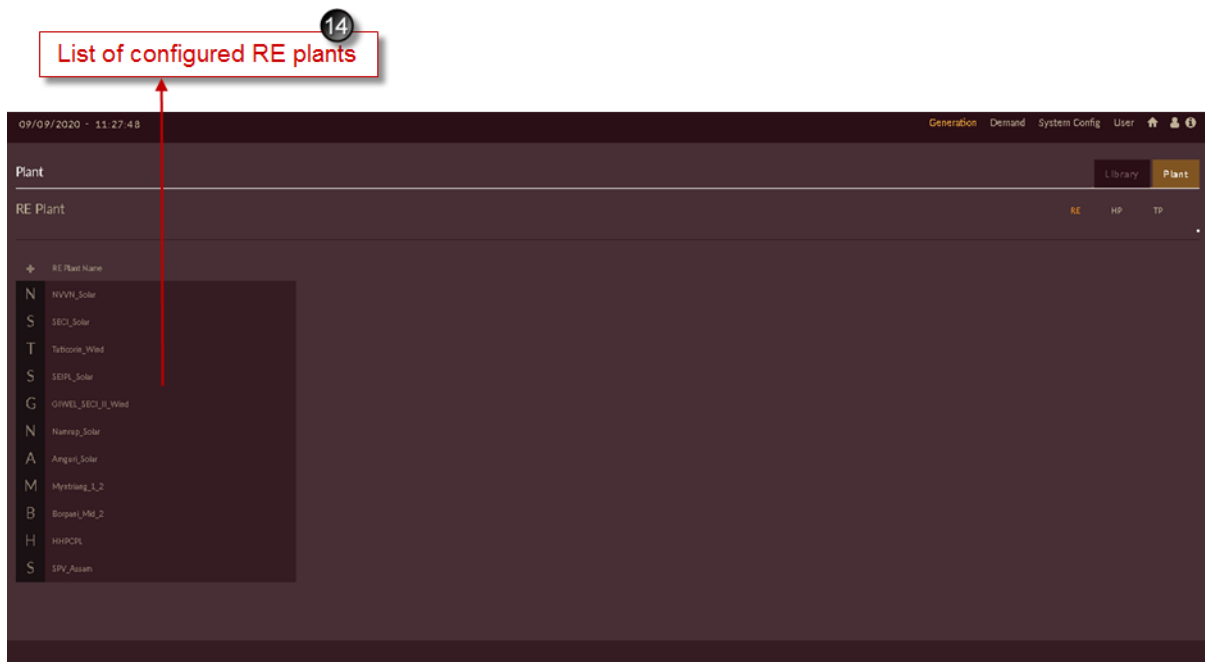

Figure I40. List of Configured RE Plants
14. Once all the RE plants are added and configured the final RE page will appear as shown in Figure I40. List of all the RE plants will appear on left of the application page.